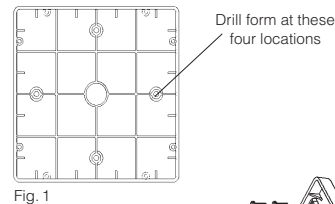

Fig. 1
1. Drill four holes in the form using the indicated holes in Fig.1. Care must be taken to ensure that the support plate is level; failure to do so will result in the fixture not installing level to the grade.